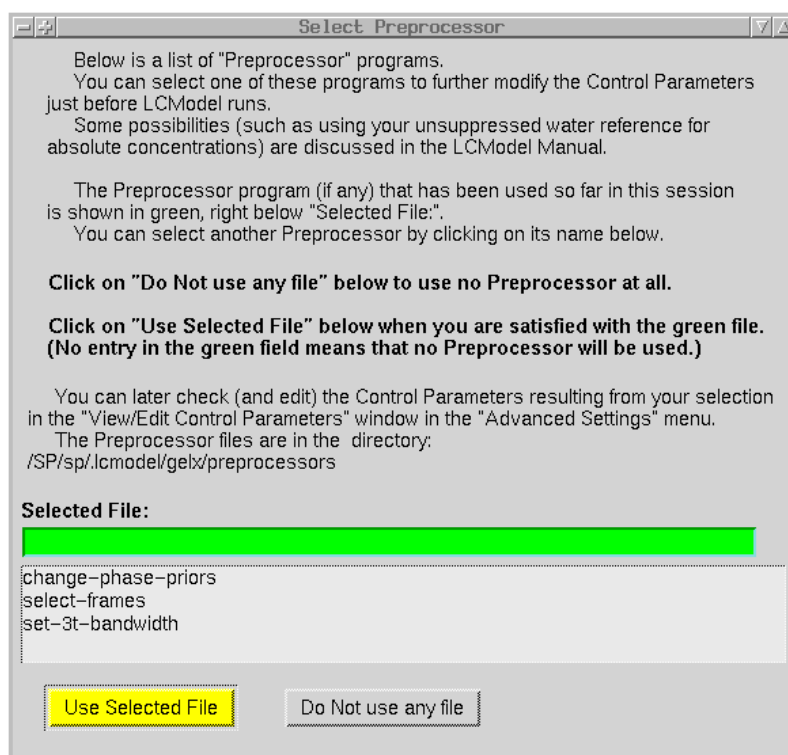

Figure 7.15: Here you can view and/or change the Preprocessor that will be used by LCMgui.
Only files in the directory `$HOME/.lcmmodel/???/preprocessors/` will be available as Preprocessors in Figure 7.15. Here, `???` = `bruker`, `ge5`, `gelx`, `marconi`, `philips`, `siemens`, `toshiba`, `varian`, or `other`, depending on which type of data you selected in Fig. 6.3.
- Click on "Change Preprocessor" to produce the window in Fig. 7.15. (If there is no Preprocessor script in the directory, then you will be told this and given the chance to continue.)
change-phase-priors : GE automated Probe spectra usually need only very small phase corrections, and this prior information is used by default. However, this can cause huge phasing errors, if you have non-standard data requiring large phase corrections. If analyses of non-standard data show poor phasing, then you should first edit the file `$HOME/.lcmmodel/???/preprocessors/change-phase-priors` as explained in the file (where `???` = `ge5` or `gelx`). Then select this Preprocessor in Fig. 7.15.
set-3t-bandwidth : LCMgui assumes that the bandwidth of 3T data is 5000Hz. If this is not the case with your 3T data, then edit the file `$HOME/.lcmmodel/gelx/preprocessors/set-3t-bandwidth` as instructed in the comments there. Then select this Preprocessor in Fig. 7.15.